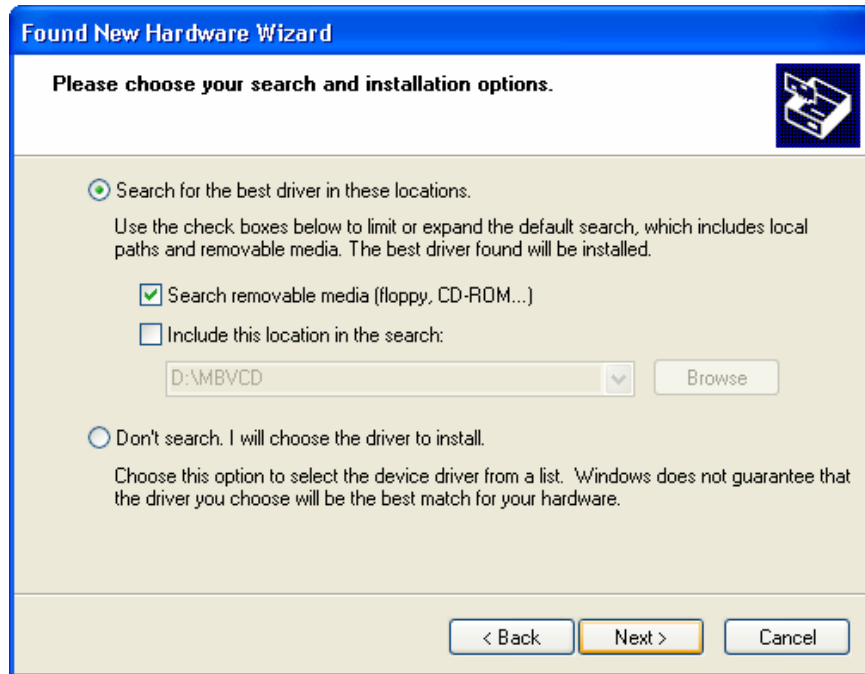

Figure 3-3. Found New Hardware Wizard Window
4. Select **Install from a list or specific location (Advanced)** option and click **Next**. The **Found New Hardware Wizard** window shown in Figure 3-3 shows in the PC display.